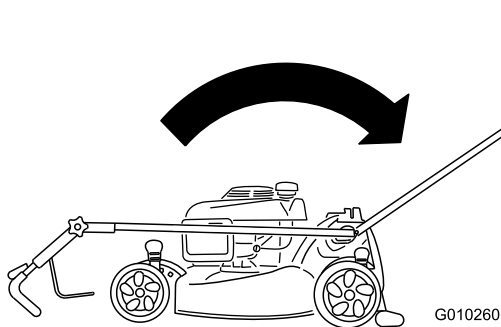

Figure 51
2. Move the handle to the upright position (Figure 51).